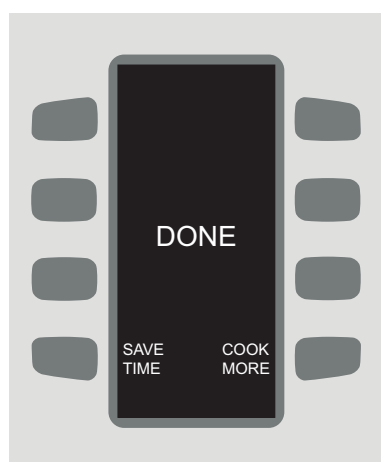

FIGURE 13: “Done” Screen 1
6. If the DONE function is enabled, the display will provide two additional options (Figure 13):